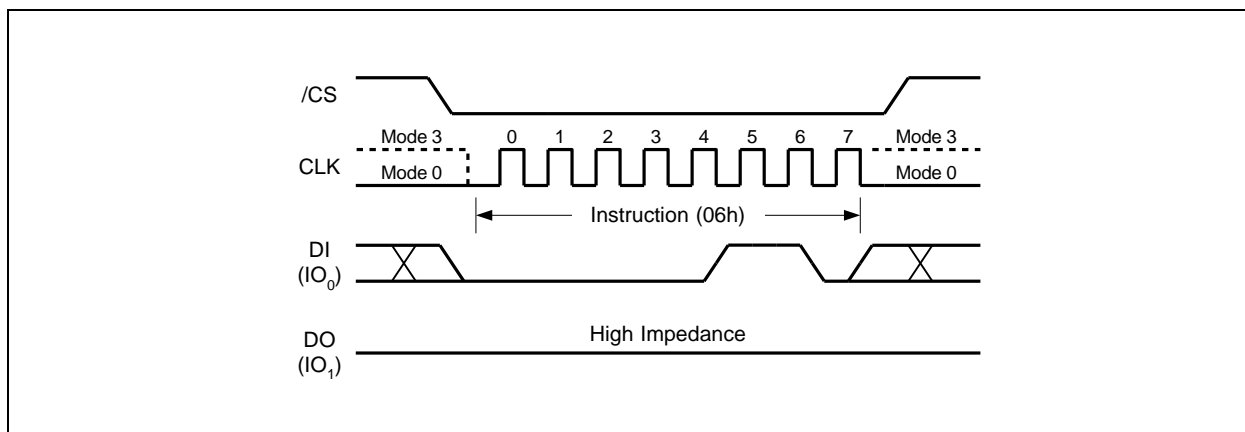

Figure 6. Write Enable Instruction
The Write Enable instruction (Figure 6) sets the Write Enable Latch (WEL) bit in the Status Register to a 1. The WEL bit must be set prior to every Page Program, Quad Page Program, Sector Erase, Block Erase, Chip Erase, Write Status Register and Erase/Program Security Registers instruction. The Write Enable instruction is entered by driving /CS low, shifting the instruction code “06h” into the Data Input (DI) pin on the rising edge of CLK, and then driving /CS high.